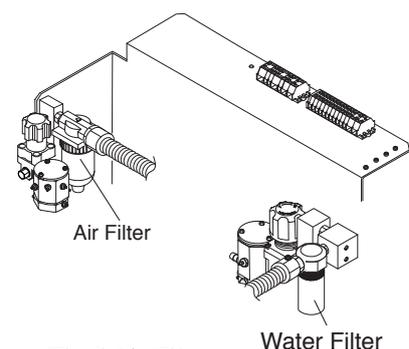

Fig.5-10 Filter
(7) Filter Replacement (Fig.5-10)